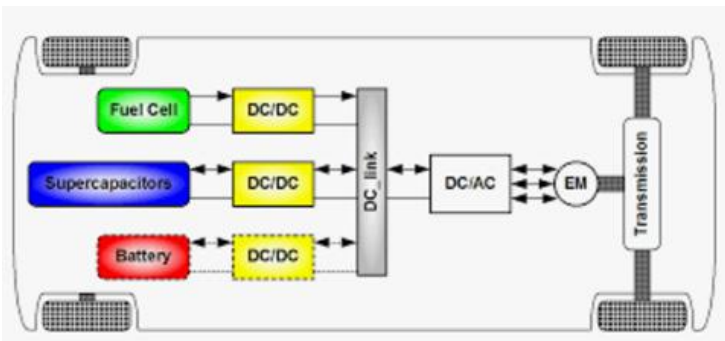

Figure 1: A block diagram of typical electric vehicle
DC-DC converters can be found in nearly every subsystem of an electric vehicle (EV). From high power charging and power distribution circuits to simple USB ports, EVs require numerous DC voltages with varying demands on power, temperature, ripple, and the like. For example, a block-level EV powertrain is shown in Figure 1 incorporating various high power DC-DC converters.